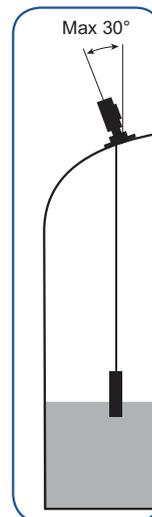

Figure 1
1. Decide on the best location at the top of the tank. Note: Above Max. water level (figure 4a4b) and Max. 30° angle (figure 1). Make sure that the float can go undisturbed all the way down to the bottom of the tank and not nearby inside staying or tubing.